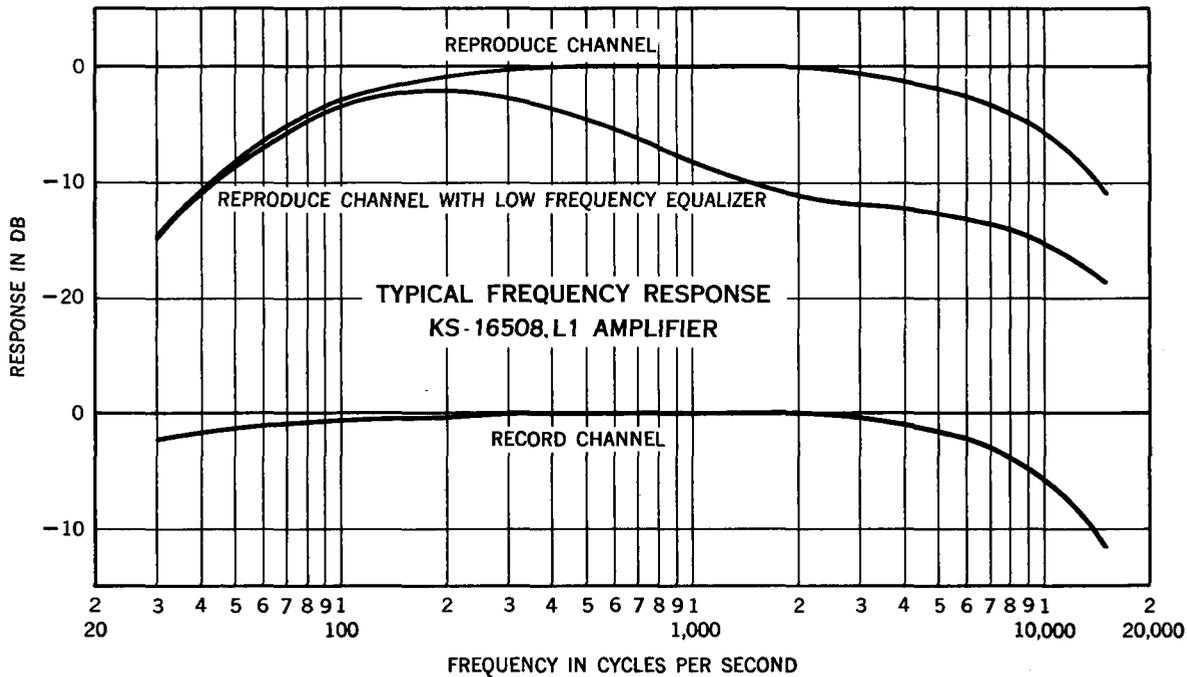

Fig. 4 - Frequency Response
7.01 Fig. 4 shows the frequency response of the reproduce and record channels. The middle curve in the figure shows the effects of low frequency equalization on the reproduce channel. This equalization is normally provided.